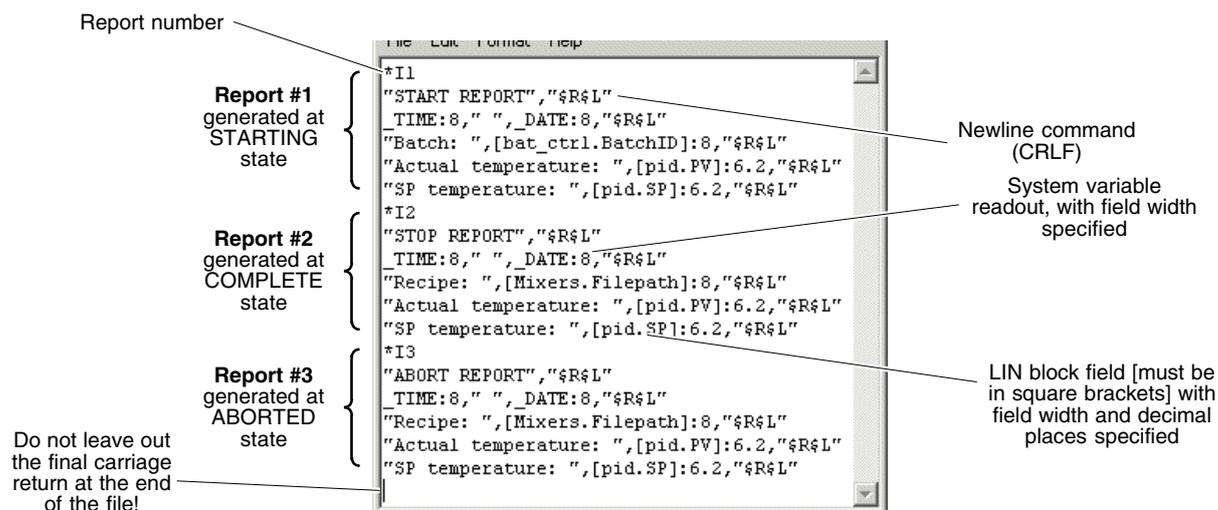

Figure 6-9 The configured ‘batch.uyf’ report form file
- 1 Open a blank text editor window (e.g. in ‘Notepad’) and type in the text exactly as shown in Figure 6-9.
To successfully format a batch report, the file must be partitioned into three sections, identified by ‘report numbers’ *I1, *I2, and *I3. The first section formats a report generated when the batch engine enters the STARTING state (the ‘Start Report’). The second section (‘Stop Report’) activates when the COMPLETE state is entered, and the third (‘Abort Report’) if and when ABORTED is entered. **This arrangement is mandatory for batch report form files.** The *contents* of each report section is optional. In the example in Figure 6-9:
- 8 At the Computer, explore the report contents. Open up the report in 'Notepad'. Figure 6-11 shows the sort of thing you might see. If you compare this with the form file, see Figure 6-9, you will see that the 'Start report' and the 'Stop report' sections have been used. No 'Abort report' appears because you did not abort the batch. Try this next.